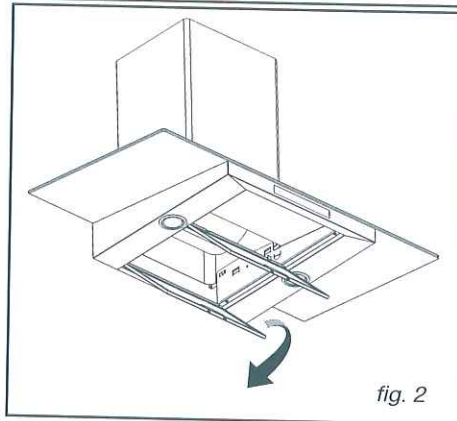

fig. 2
- Remove the filter cartridge (fig. 2).